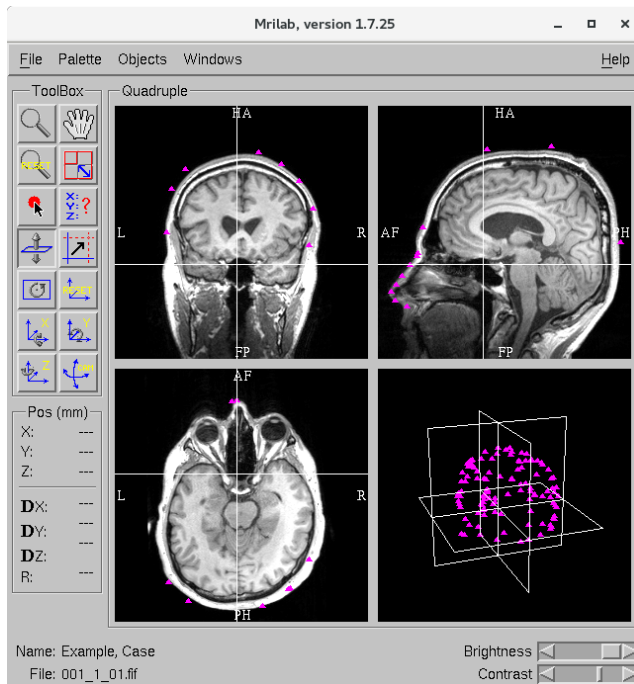

Figure 12: Import digitized points from a FIFF file.
- Click **Make Points** (Figure 12).